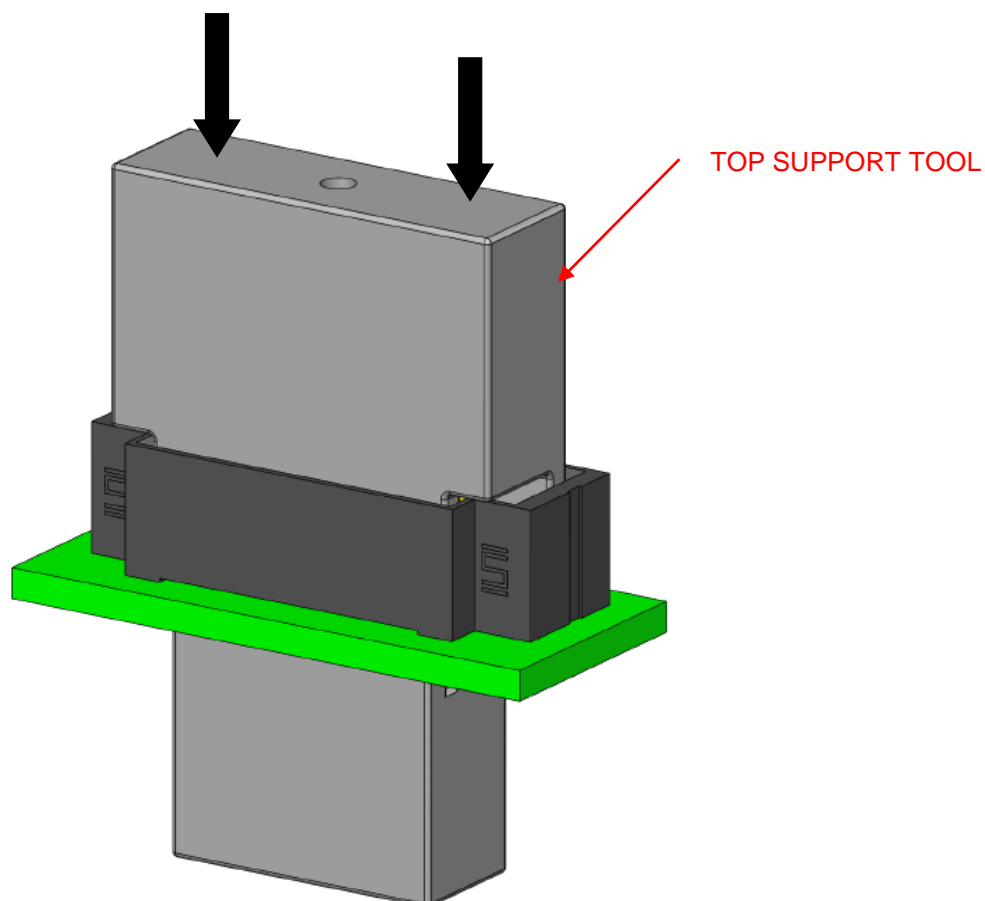

Figure 3: Top Support Tool Application to Seat Connector
- Using a top support tool (CAT-UPTT-XX) & a insertion press, apply force to the top support tool as shown in figure 3.